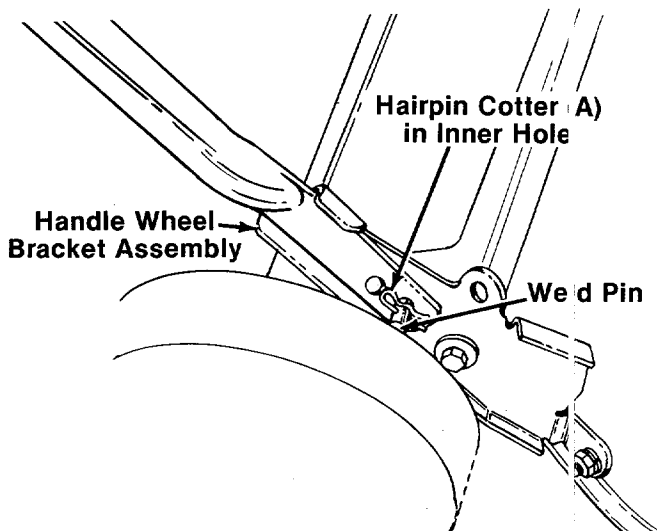

FIGURE 2.
3. Attach the lower handle by placing the bottom holes in the lower handle over the weld pins on the handle wheel bracket assemblies. Make certain the instruction label on the lower handle can be read from the operating position. Secure with hairpin cotters (A) in inner holes on weld pins. See figure 2.